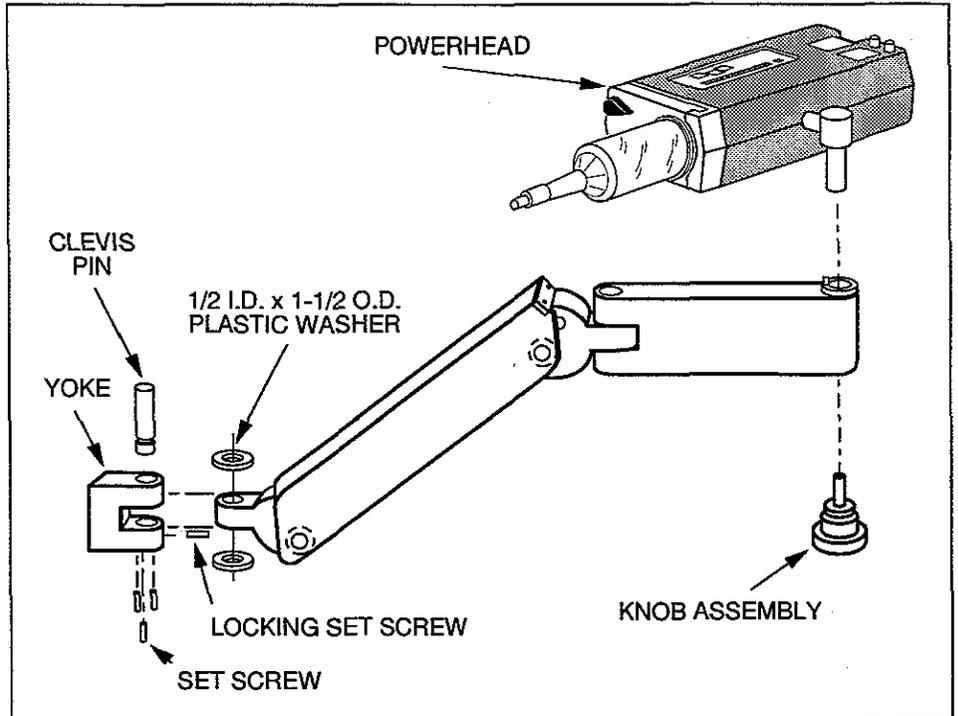

Figure 2-3
1. Locate the yoke at the rear of the handle assembly. See Figure 2-3. Remove the locking set screw from the yoke; retain this screw. Tap the clevis pin up and out of the yoke using a drift pin and hammer.
2. Position the arm as illustrated in Figure 2-3. Select two plastic washers (1/2 I.D. x 1-1/2 O.D.) from the miscellaneous hardware; align one washer above and one below the narrow mounting hinge at one end of the arm. Fit the mounting hinge into the yoke.